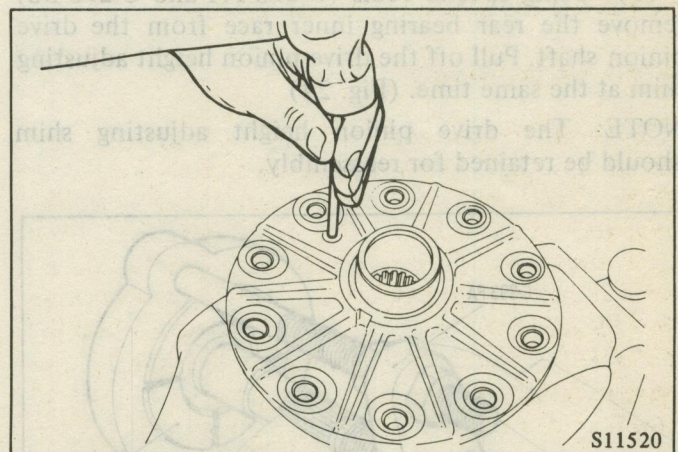

Fig. 22 Driving Out the Pinion Shaft Lock Pin
(4) Loosen the ring gear mounting bolts in diagonal sequence, and then remove.
(5) Drive out the pinion shaft lock pin from the ring gear back side using a long punch. Then pull out the pinion shaft and the pinion. The side gears with the spacers can then be removed. (Fig. 22)